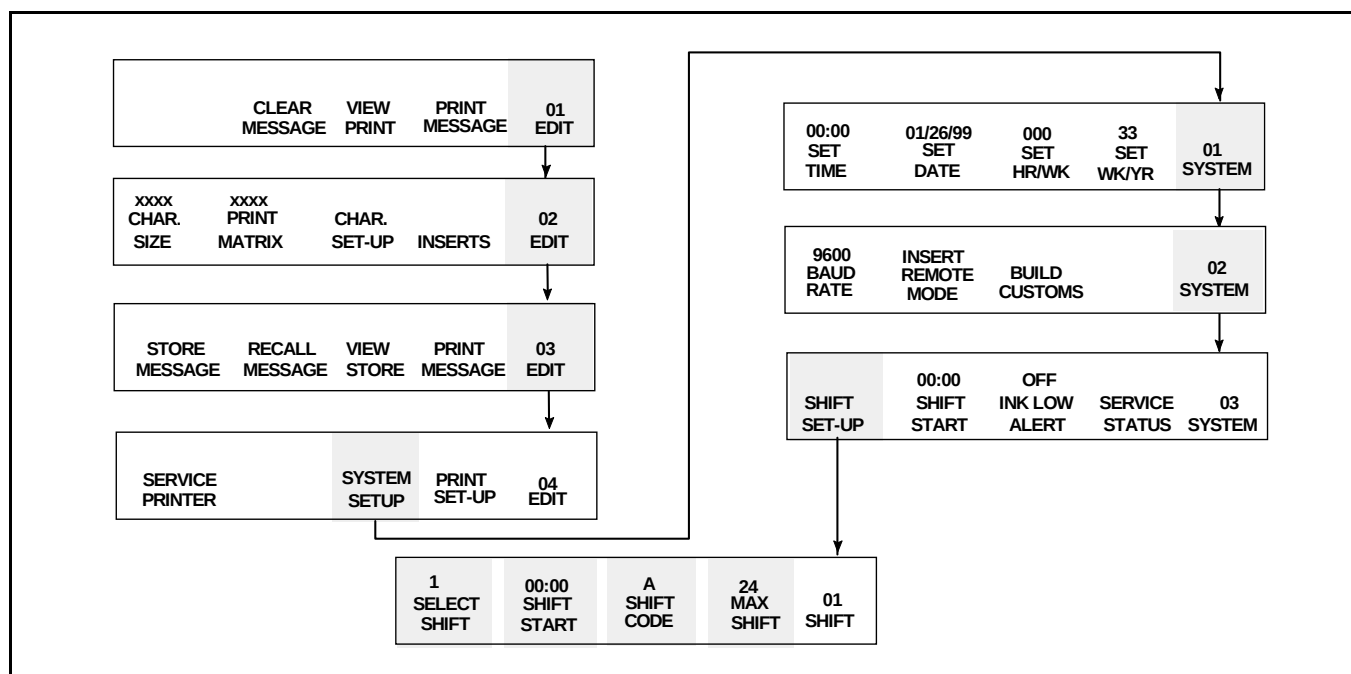

Figure 6-36. Accessing Frame <01 SHIFT>
1. Begin in Frame <03 SYSTEM>. Refer to Figure 6-36.